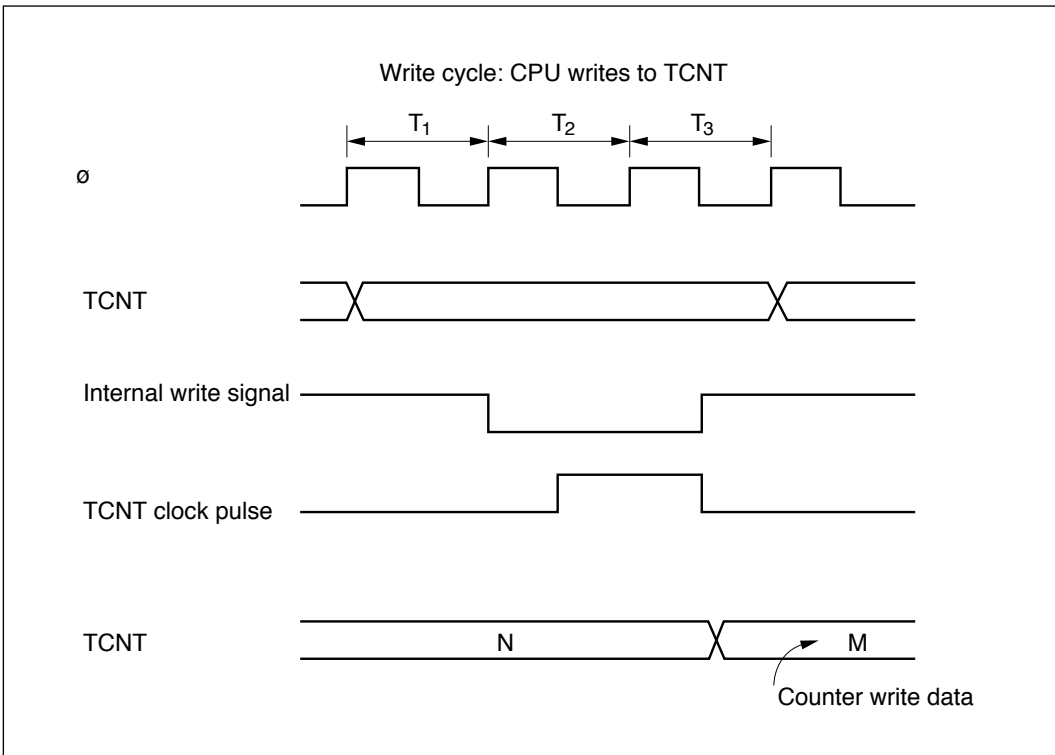

Figure 11-8 Contention between TCNT Write and Increment
(1) Contention between Timer Counter (TCNT) Write and Increment: If a timer counter clock pulse is generated during the T_3 state of a write cycle to the timer counter, the write takes priority and the timer counter is not incremented. See figure 11-8.